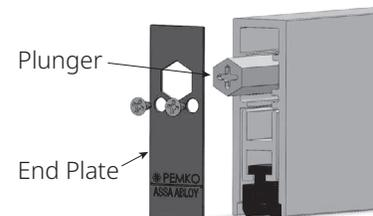

Figure 5
4. On the plunger side, with the "This Side In" sticker towards the ADB, align the end plate's hexagonal hole with the plunger and install using the end plate screws as shown in Figure 5.